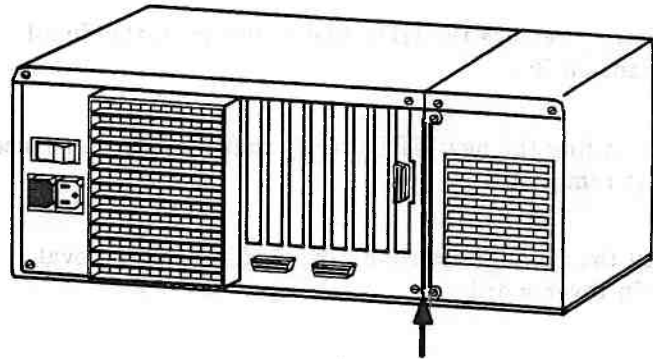

Figure 5-73. Small Expansion Box Bracket
7. Remove the screws that secure the bracket to the Small Expansion Box and remove the bracket (Figure 5-73).